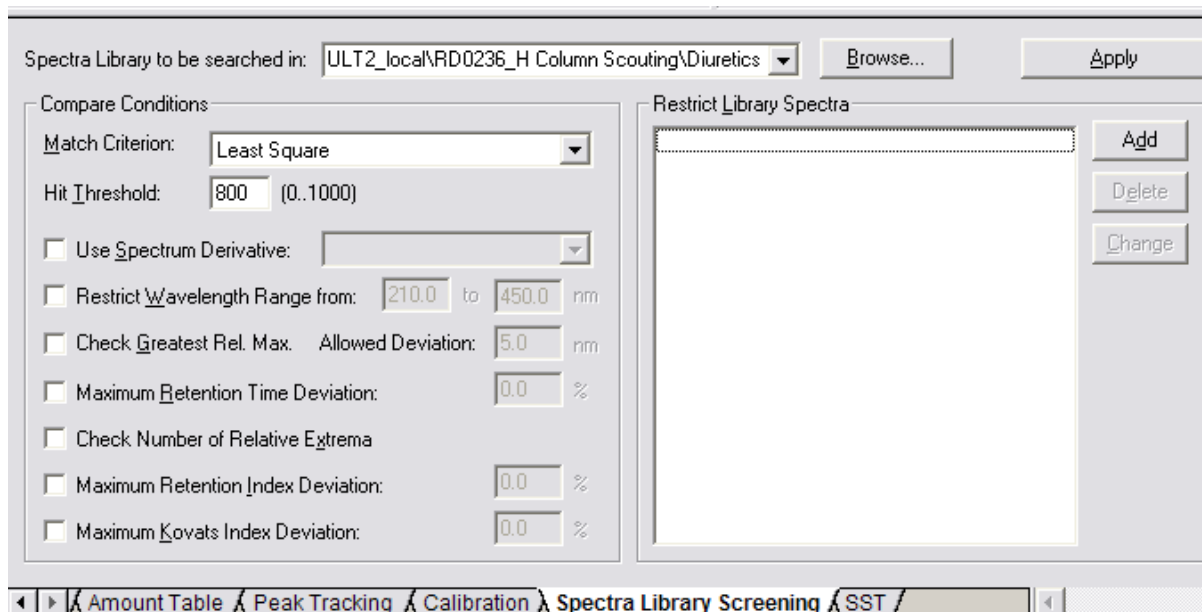

FIGURE 3-10: The Spectra Library Screening tab from the Method Editor (where the Library for Automated Peak Tracking is selected).
2. After the Spectra Library is created, it needs to be specified in the **Method Editor** where it will be used for **Automated Peak Tracking** (FIGURE 3-12). The **Automated Peak Tracking** feature identifies the spectrum of a peak in a chromatogram by comparing it to the Spectra Library (FIGURE 3-10).